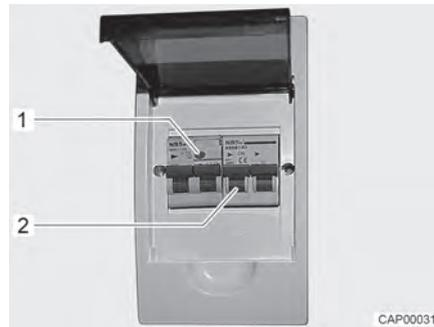

Fig. 90 230 V fuse box with safety cut-out and FI-switch
A fault current protection switch (FI-switch) in the fuse box protects the complete vehicle from fault current (0.03 A). A downstream safety cut-out (10 A) (Fig. 90,2) secures the 230 V power supply.
- When the vehicle is connected to the 230 V power supply, press the test button (Fig. 90,1). The fault current protection switch must trip.